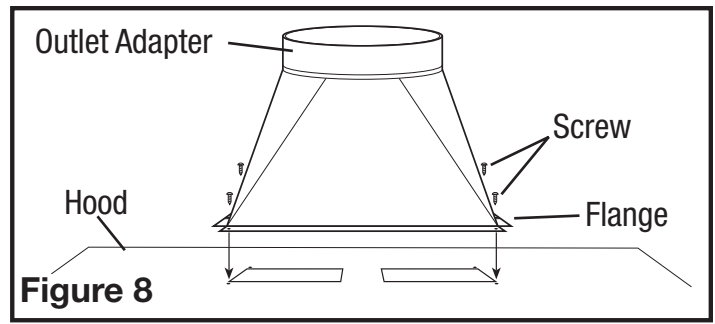

Figure 8
- Install the proper sized outlet adapter (available separately) to the hood by matching up the four holes on the flange of the adapter to the four corresponding holes on the hood and secure in place with the provided screws. Ensure an airtight seal around the adapter by securing all connections with ducting tape (Figure 8).